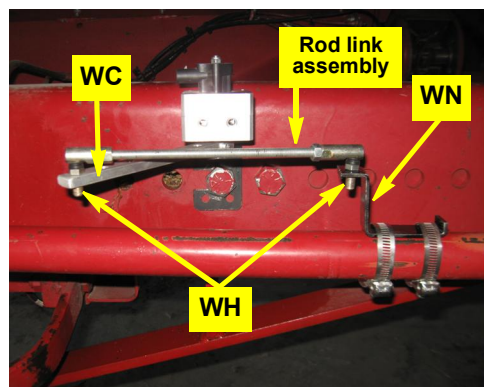

Figure 2d: WAS link rod assembly installed
- d. Using hardware **WH**, install the rod link assembly from step 1 between the last hole in connector arm **WC** and bracket **WN**. Set the swivel studs downward at both ends (Figure 2d). Leave swivel nuts **WH** loose.